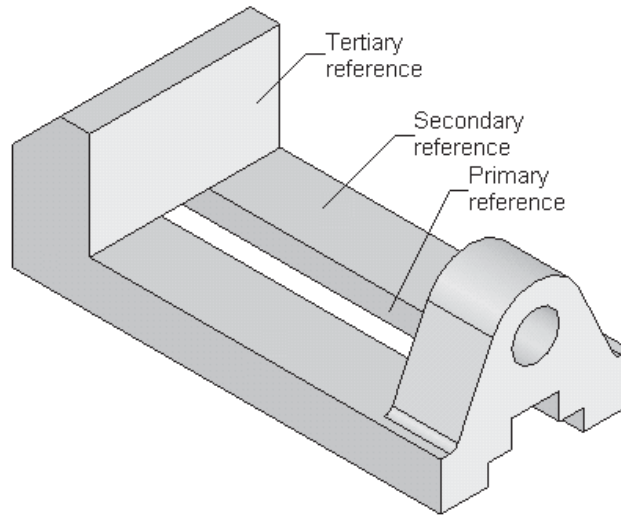

Figure 11-54 Faces to be selected as mate references
- Open Vice Body and Vice Jaw part documents and define the mate references in both part documents, refer to Figures 11-54 and 11-55
4. Select the planar face of the model shown in Figure 11-54 as the primary reference. The selected planar face is highlighted in green.
6. Select the planar face of the model shown in Figure 11-54 of the model as the secondary reference. The selected face is highlighted in magenta.
8. Select the planar face of the model shown in Figure 11-54 as the tertiary reference. The selected face is highlighted in blue.